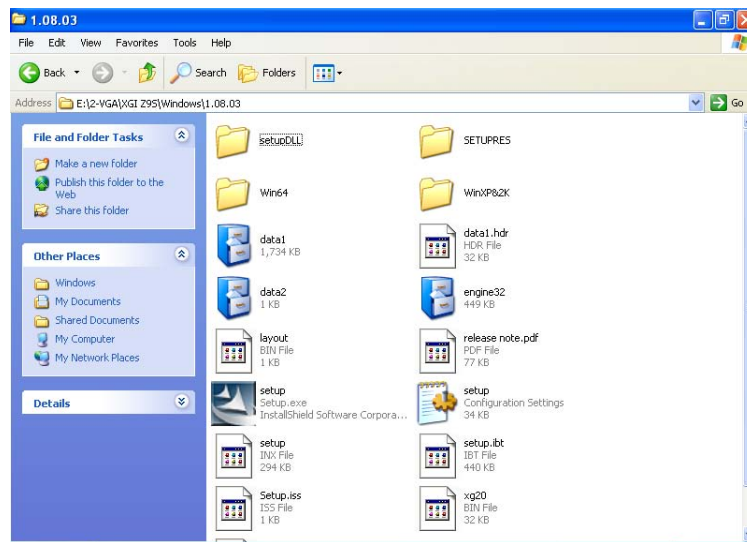

Figure 8-14: XGI VGA Driver Setup Icon
Step 6: Double click the directory icon in **Figure 8-14**.